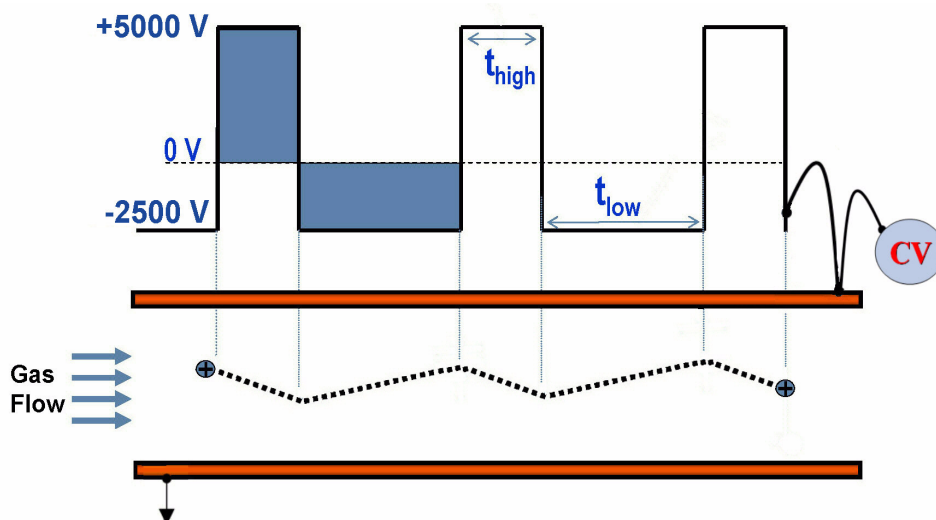

Figure 4. Illustration of the FAIMS effect (parallel plate example), with compensation voltage (CV), showing ion transmission
To prevent an ion from being discharged, a small dc potential, called the compensation voltage (CV), is applied to the inner electrode. The CV compensates for the drift that an ion experiences as the result of the application of the asymmetric waveform. This is illustrated in Figure 4.